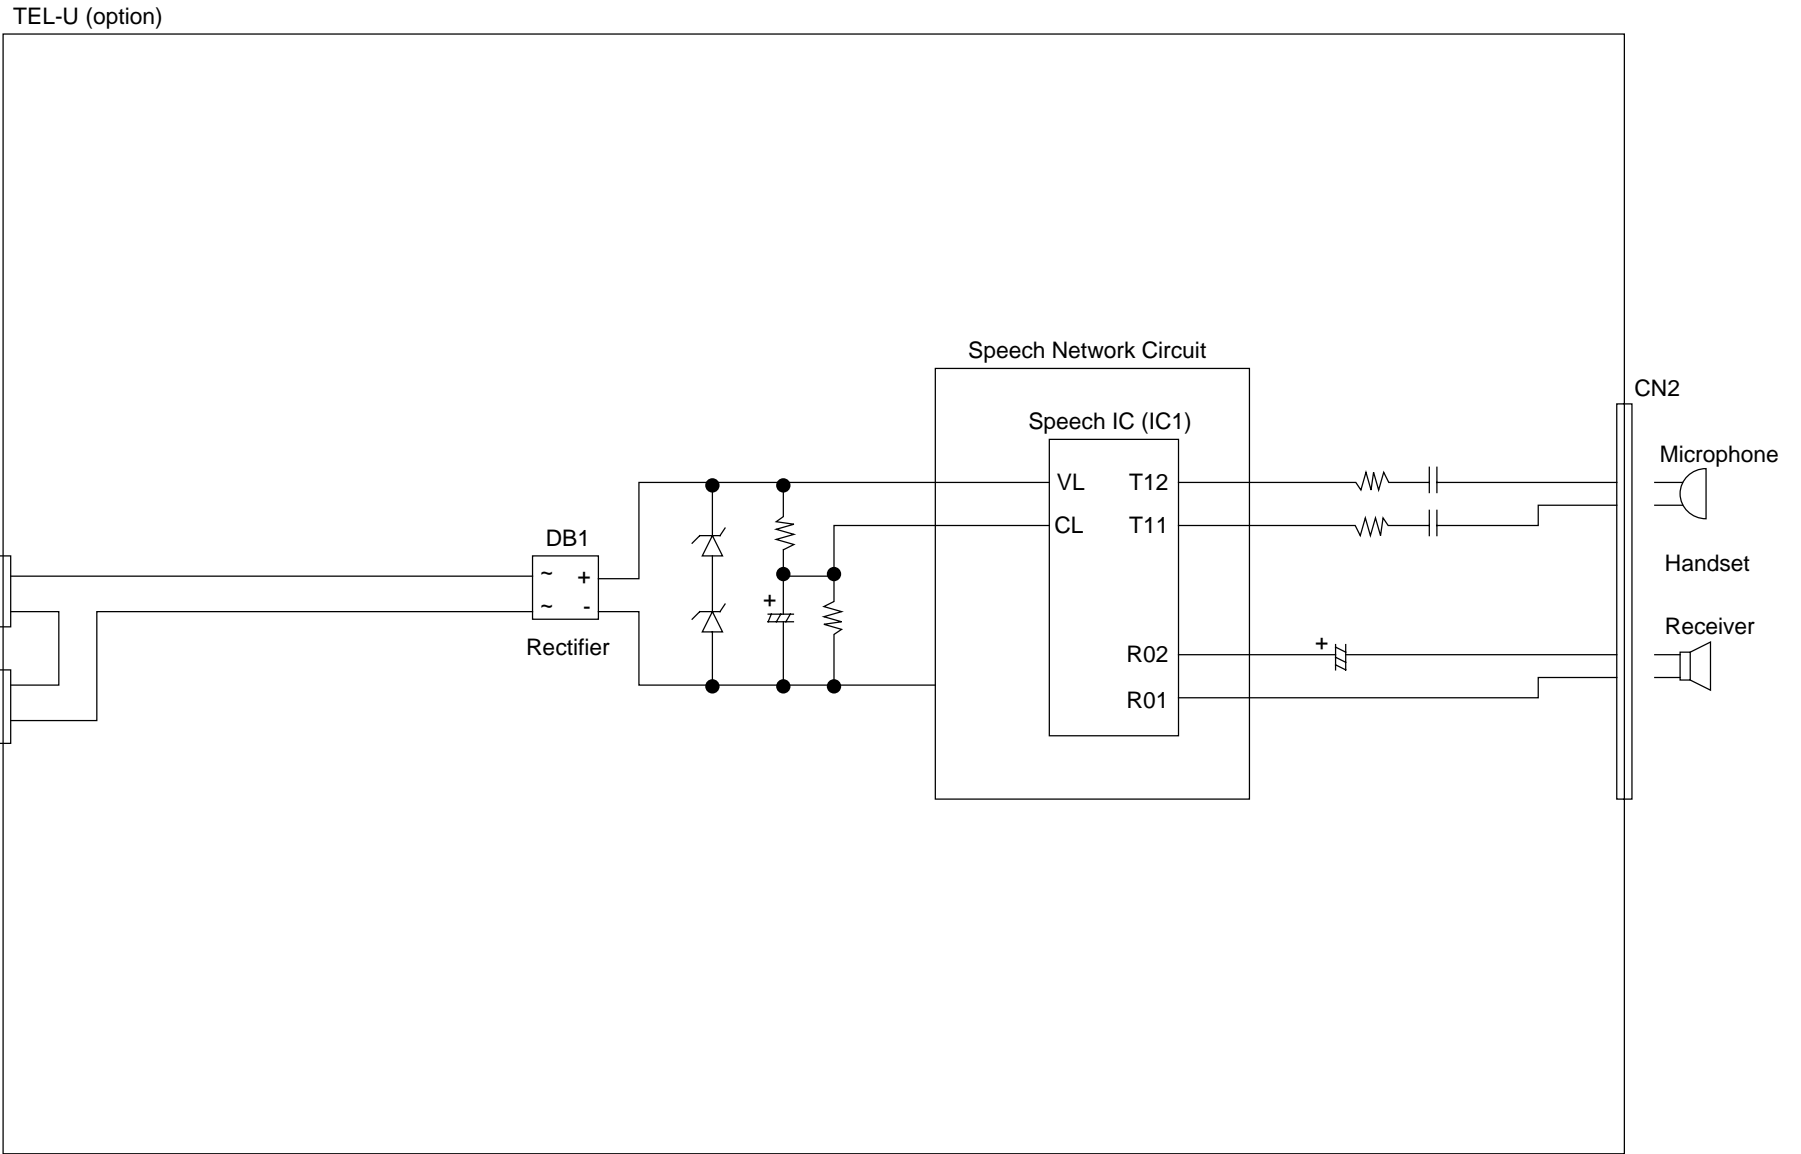

Figure 3.30 Block Diagram of TEL-U (option)
- Figure 3.30 shows a block diagram of TELU circuit.